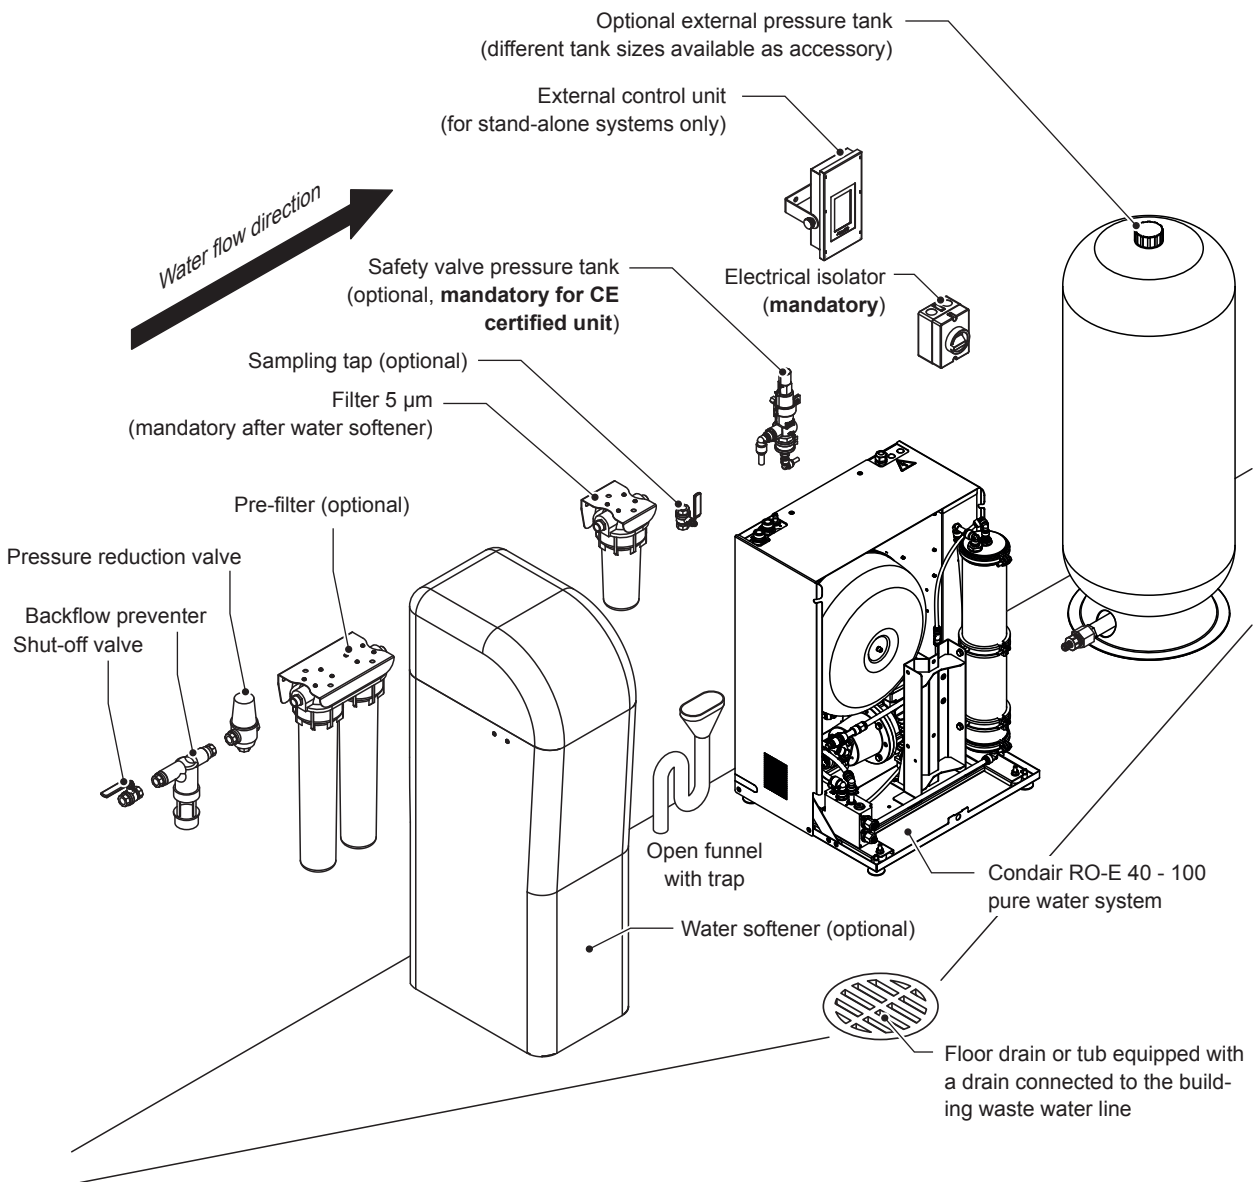
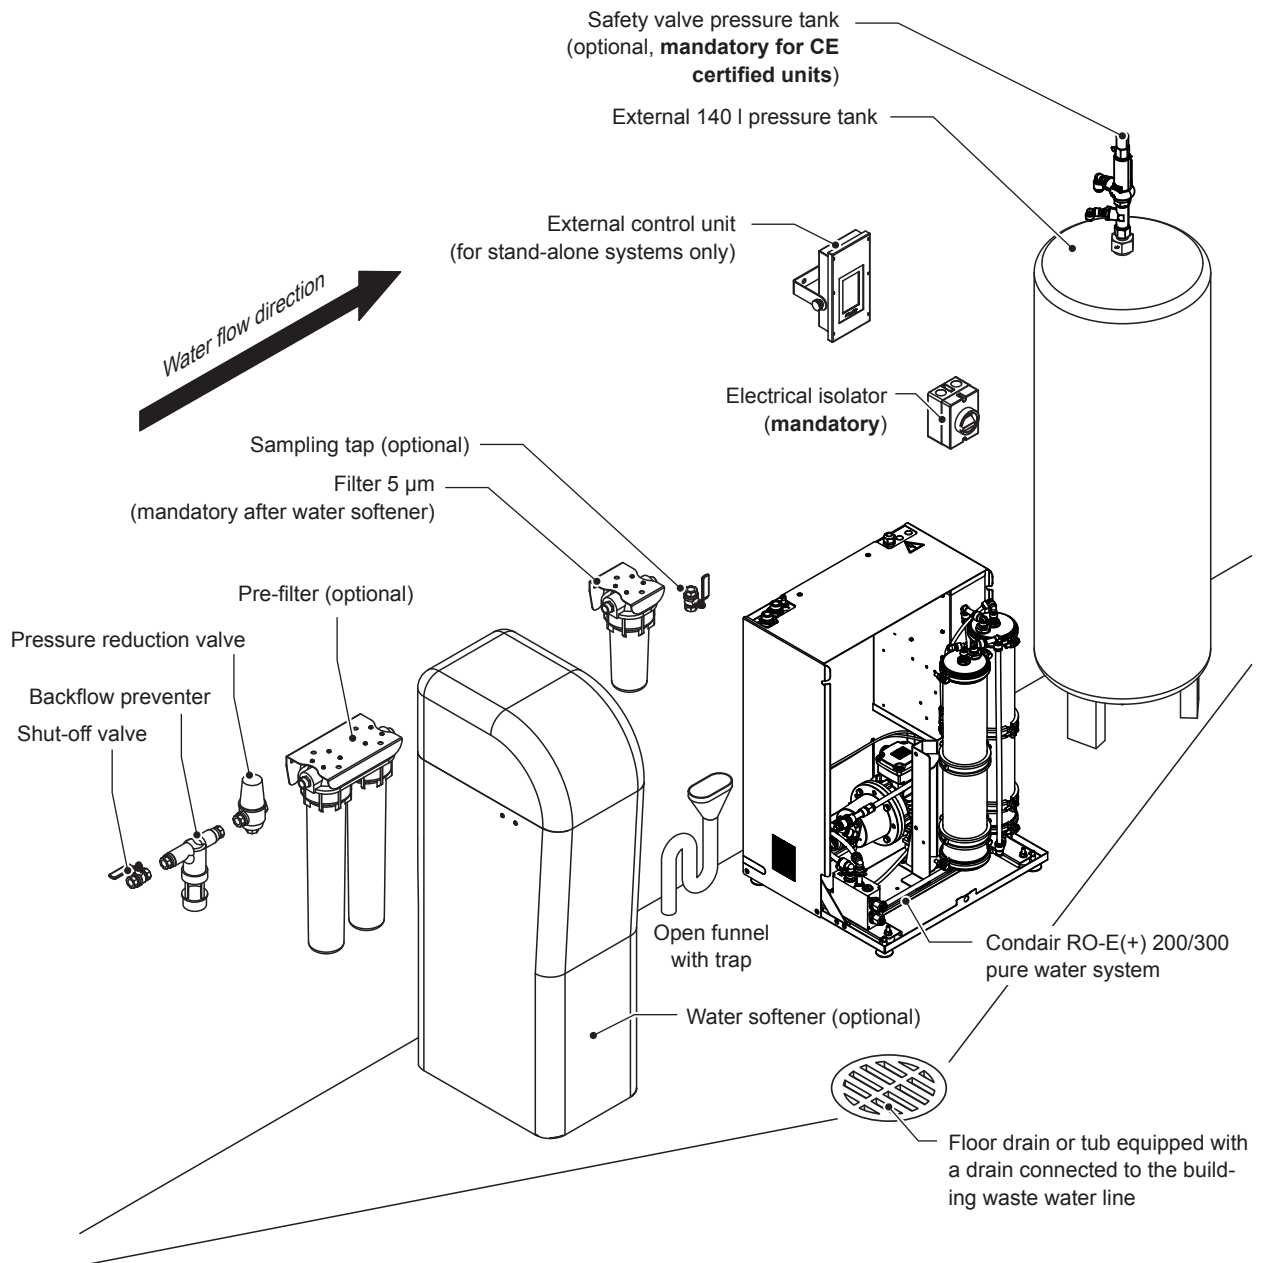

Fig. 4: Positioning of the system components for Condair RO-E 40/100 pure water systems with or without optional external pressure tank
Fig. 7: Positioning of the system components for **Condair RO-E+ 200/300** pure water systems with external pressure tank
- The components upstream of the Condair RO-E(+) pure water system (shut-off valve up to and including test cock) must be installed in the sequence shown in Fig. 4 and Fig. 7.
mounted on the wall to the left of the center of the pure water system and approximately 150 mm above the unit, see Fig. 4
Connected directly to the upper connection of the (first) pressure tank, see Fig. 7